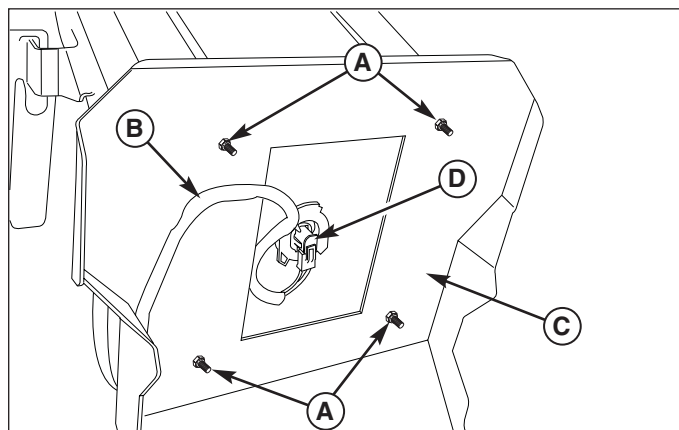

Figure 5. Remove The Existing Seat
2. Install the seat onto the seat mount plate (C, Figure 5) and secure with the 5/16-18 nylock flange nuts (A).
3. Connect the wire harness (B) to the seat switch (D) that is located in the bottom of the seat.